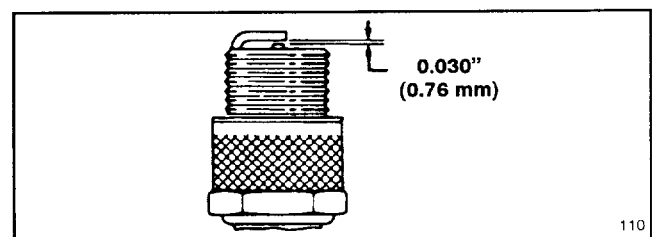

Figure 20
3. Set air gap at 0.030" (0.76 mm) (Fig. 20). Install correctly gapped spark plug and gasket seal. Tighten plug firmly to 14 ft-lb (19 N-m).